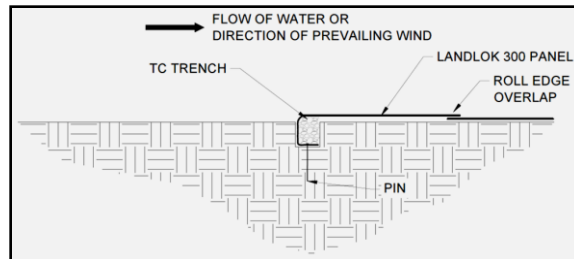

Figure 19: Terminal Channel (TC) Trench Complete
14. Fold the Landlok 300 panel over the top of the compacted TC trench (Figure 19) ensuring a minimum 3 inch (75 mm) overlap and place each panel end into the respective COS trenches.